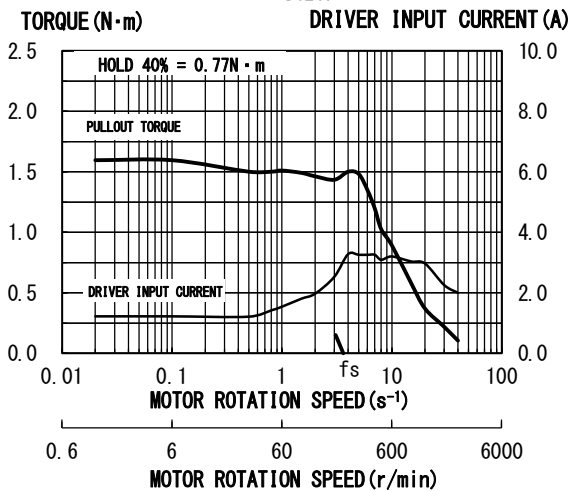

Fig. 5
| 28角 | PKP523N12A (B) | 1.2 | 3 | OFF | OFF | OFF | OFF | ON | Fig. 5 |